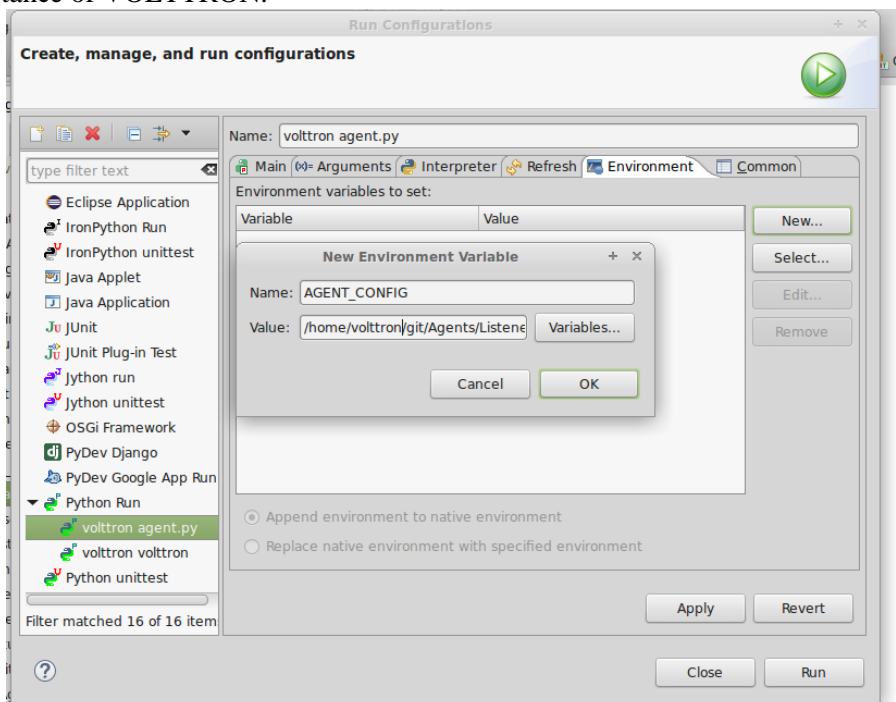

Figure 75: Running the Listener Agent, Setting Up a Run Configuration
6. In the Environment tab, select New -> add the following environment variables (bulleted list below), as shown in Figure 75: